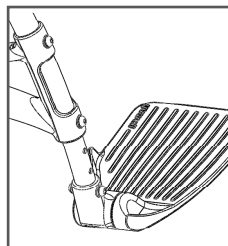

Figure 9
- Adjustment of pedal height: loosen the set screws on the fastener with a hexagon wrench, adjust the pedal to the appropriate height according to the height of the occupant and lock the set bolts, see Figure 9.